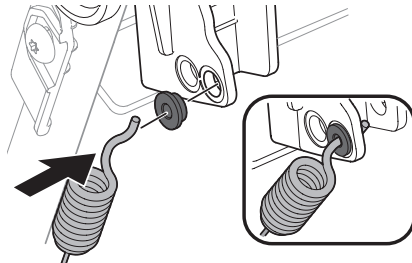

Figure 32
4. Replace bushing in the lower hole and reattach the cable through the bushing and lower hole in the handle (Figure 32).